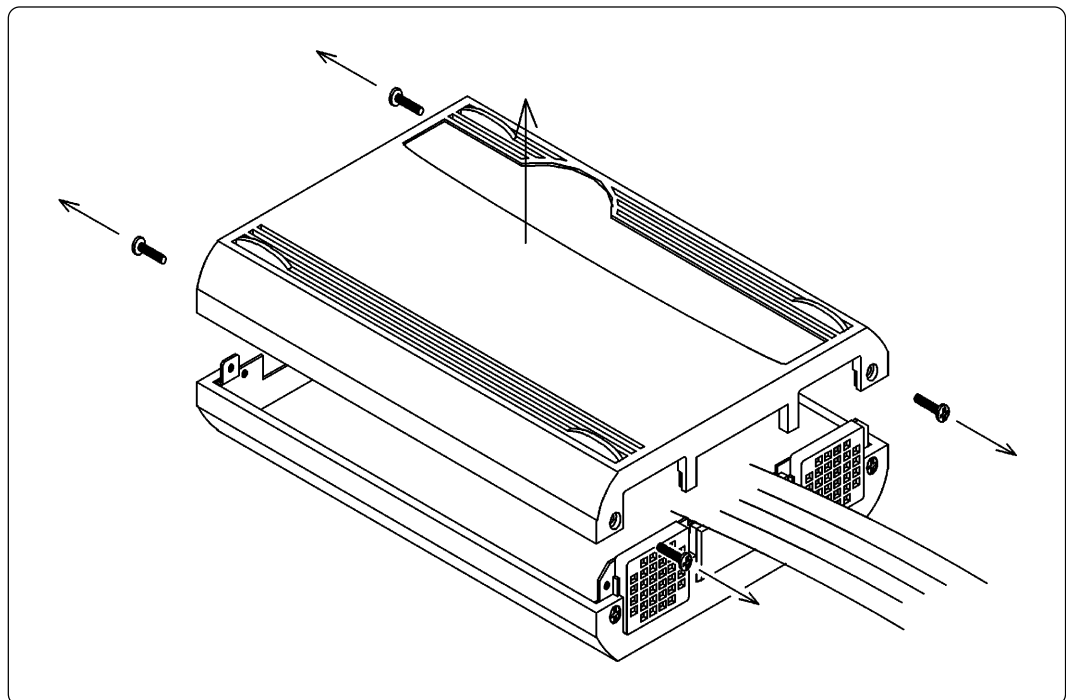

Figure 3.1 Removing the upper cover
- (1) Remove the four screws of both sides of this product and lift off the upper cover. (see Figure 3.1)
- (2) Set the jumper switches and others as described below.
- (3) Replace the upper cover and secure the four screws.